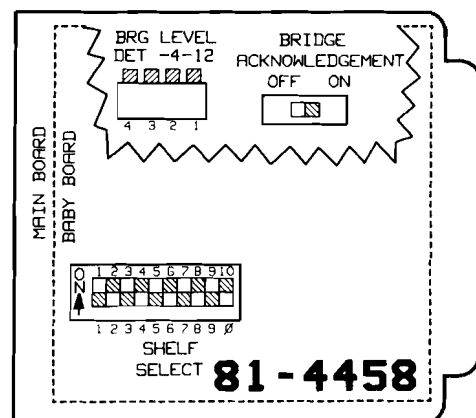

figure 3. 4458 option switch locations
2.04 Three option switches must be set before the 4458 is placed into service. These switches and their functions are described in paragraphs 2.05 through 2.08. Locations of these switches on the module's printed circuit board are shown in figure 3.